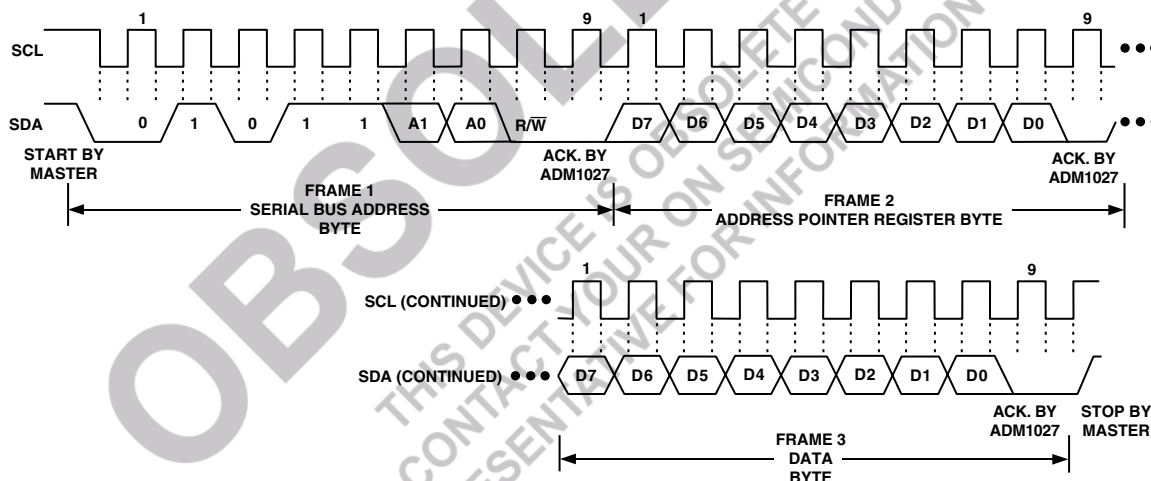

Figure 6. Writing a Register Address to the Address Pointer Register, Then Writing Data to the Selected Register
This is illustrated in Figure 6. The device address is sent over the bus followed by  $R/\overline{W}$  being set to 0. This is followed by two data bytes. The first data byte is the address of the internal data
2. In Figures 6 to 8, the serial bus address is shown as the default value 01011(A1)(A0), where A1 and A0 are set by the address select mode function previously defined.